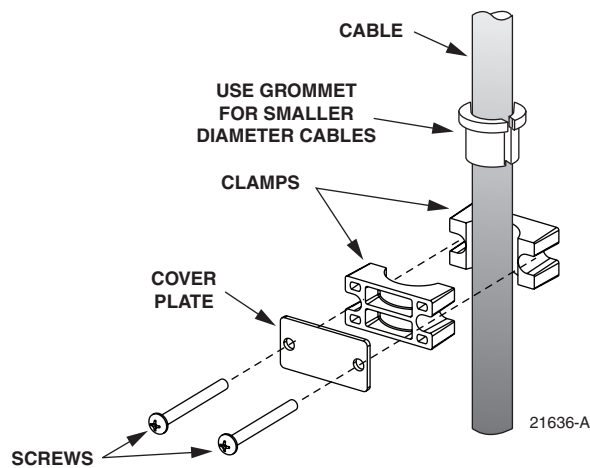

Figure 18. Cable Clamp Assembly
7. Assemble the cable clamp (and grommet if required) on the cable as shown in Figure 18 and secure the cable to the lower part of the cable clamp bracket.